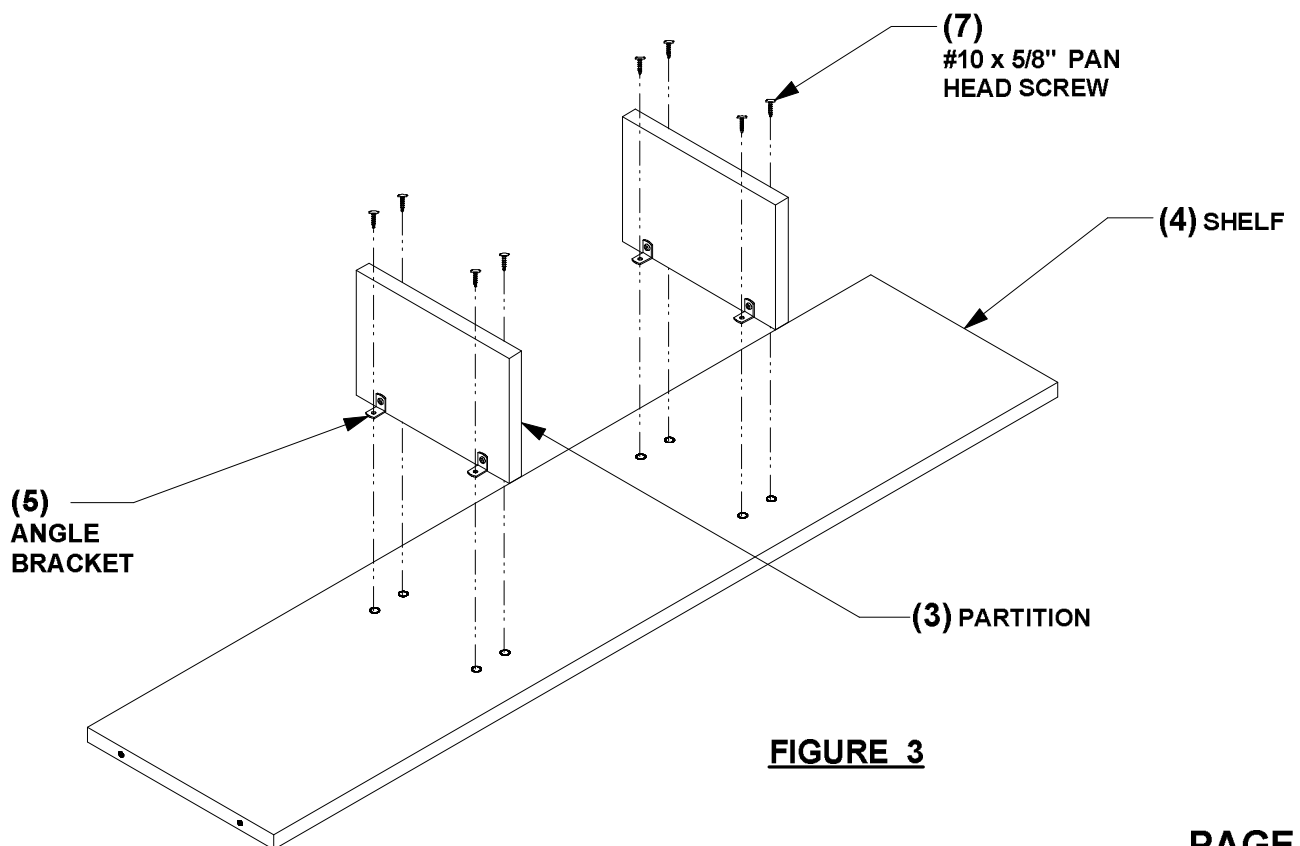

FIGURE 3
3. Attach partitions (3) with pre-mounted angle brackets (5) to shelf (4) using #10 x 5/8" pan head screws (7). See figure 3.